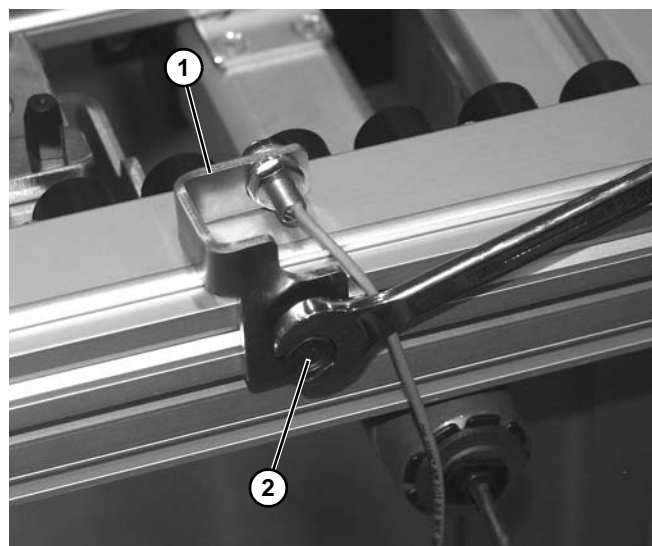

Figure 4
2. Attach sensor (**Figure 4, item 1**) to conveyor with screw (**Figure 4, item 2**).